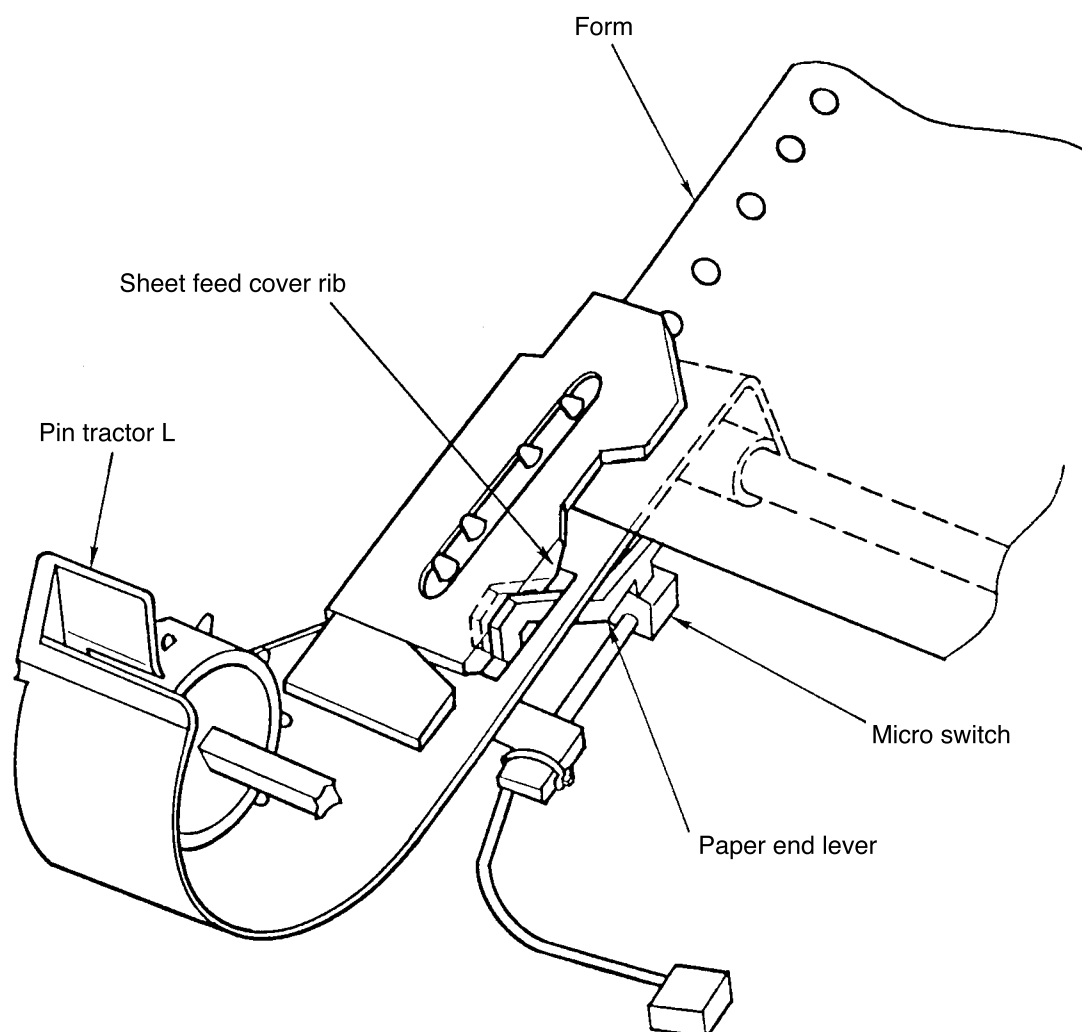

Figure 2.11 Rear form end detection mechanism
2.2.8 Paper end detection mechanism (See Figure 2.11)